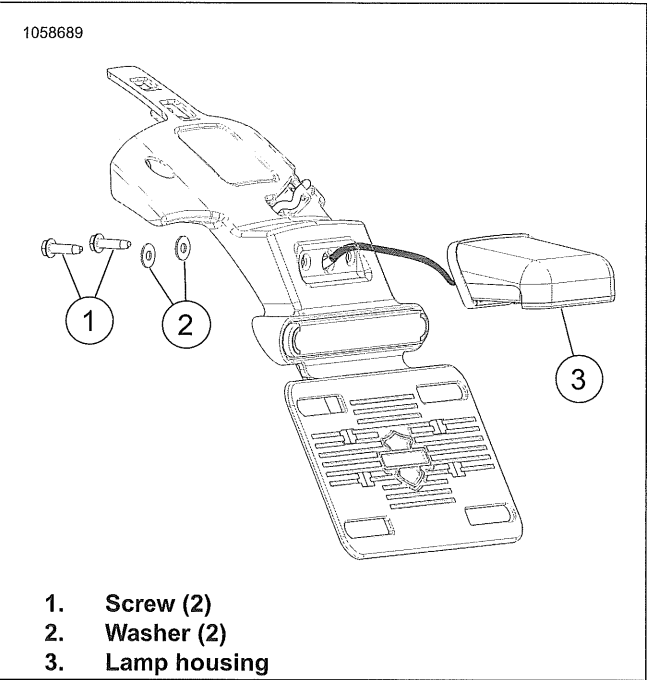
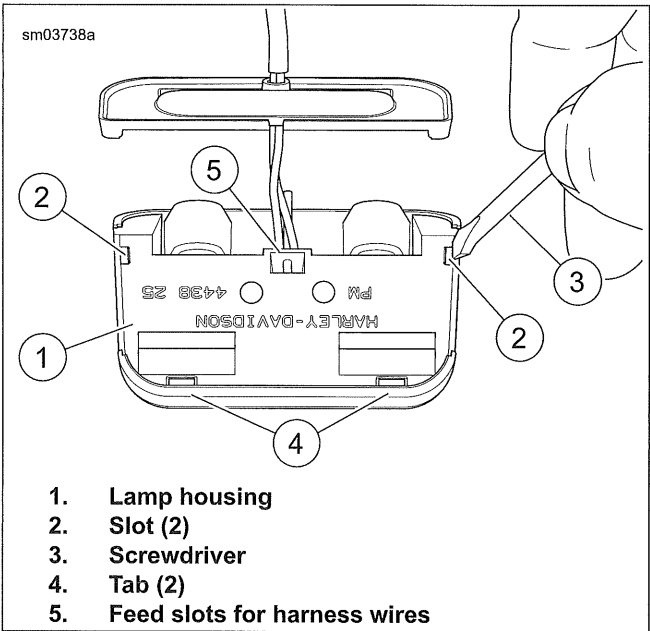

Figure 7-98. Center Mount Lamp Housing (Typical)
Figure 7-99. Removing License Plate Lamp Housing Cover
1. See Figure 7-98. Remove screws (1) and washers (2).
2. Rotate lamp housing (3) to face upward.
3. See Figure 7-99. Insert the tip of a small flat bladed screwdriver (3) into each slot (2). Gently disengage housing from cover.
2. See Figure 7-99. Install lamp housing to cover.
3. Position lamp housing (3).
4. See Figure 7-98. Install screws (1) and washers (2). Tighten.